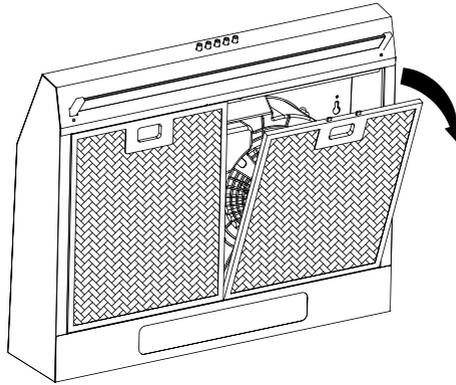

Fig.5
Remove the filter – pull the relative catch and tilt the filter downwards until it disengages from the supports (see Fig.5).
② Mount the rangehood
- Remove the filter – pull the relative catch and tilt the filter downwards until it disengages from the supports (refer to Fig.5 on page 10).